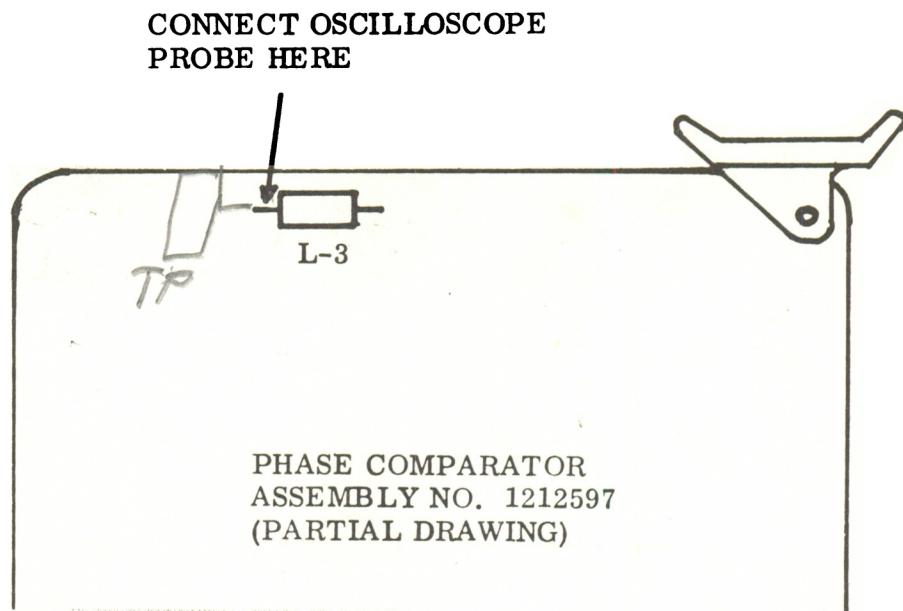

FIGURE 3. L3 TEST POINT
4. Connect the vtvm positive lead to test point E1 on the capstan servo compensation and brake amplifier card, and the negative lead to the chassis. See Figure 3 for location of E1.
6. Carefully connect the oscilloscope probe to the LEFT-hand lead of L3, which is located at the top center of the phase comparator card. See Figure 3 for L3 location.